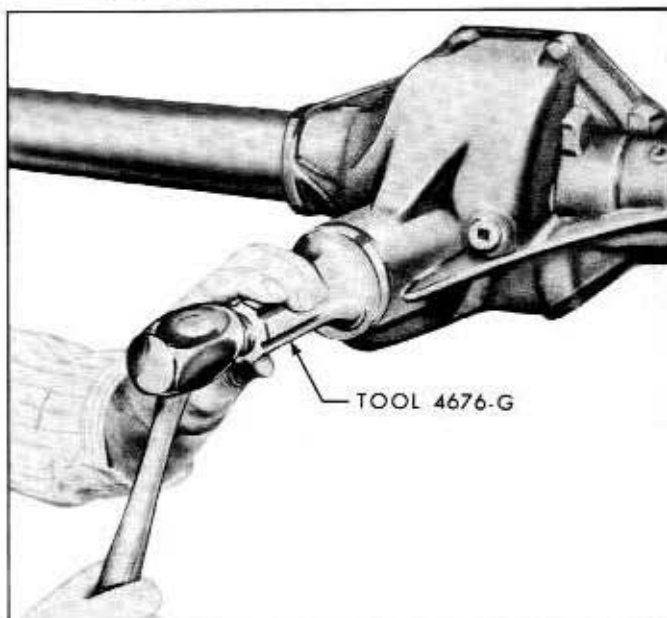

Fig. 4-9—Drive Pinion Flange Seal Installation—(60C-5219)
8. Coat the outer edge of the new seal with oil-resistant sealer, and install the seal, using tool 4676-G shown in figure 4-9.